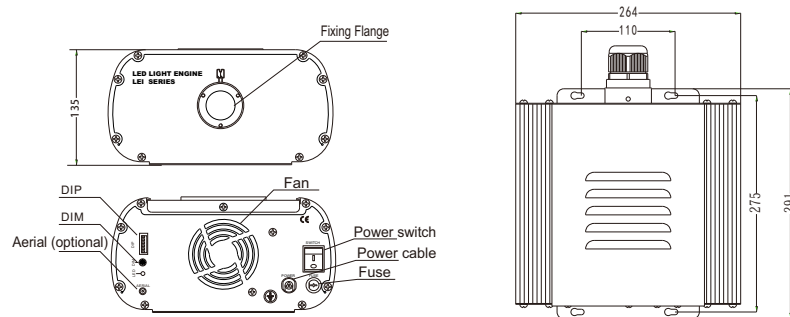

Fig. 1
2. Installation dimension of light engine (see Fig.1):
2. Installation dimension of light engine(see Fig1):
Solid Core fiber optic(See Fig. 1):